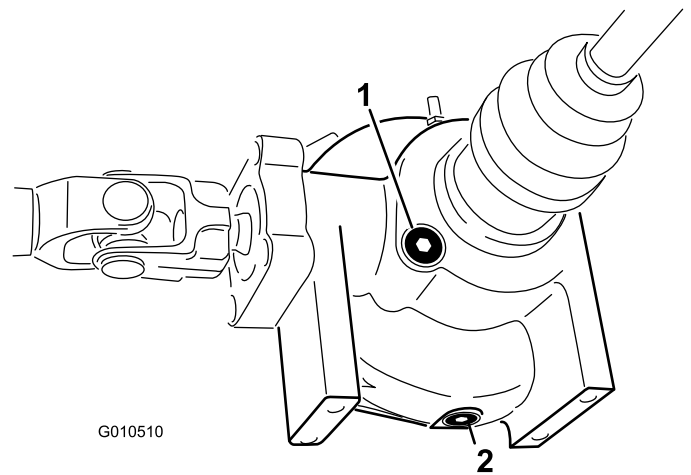

Figure 51
2. Clean the area around the drain plug on the side of the differential (Figure 51).